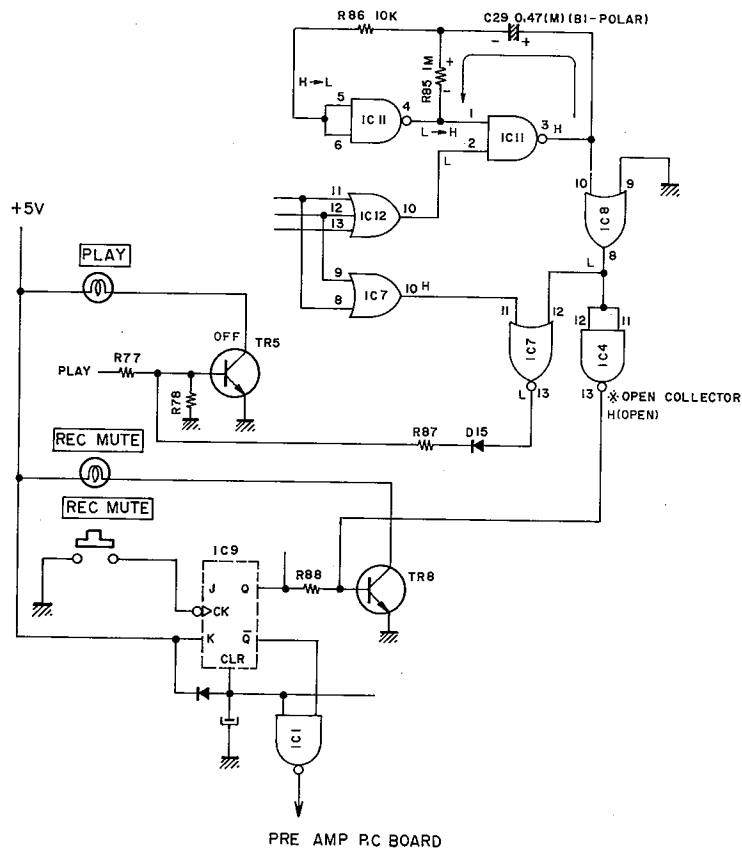

Fig. 7 Oscillation stopped
2) In mode other than those stated above, as shown in Fig. 7, IC12-⑩ is Low Level, so IC11-③ is High Level. Then, charging current flows through R85 to C29. At this time, due to R85's voltage drop IC11-⑤, ⑥ become High Level and IC11-④ becomes Low Level. However, when C29 finishes charging, R85's voltage drop disappears and IC11-⑤, ⑥ become Low Level and IC11-④ High Level. It then stabilizes.